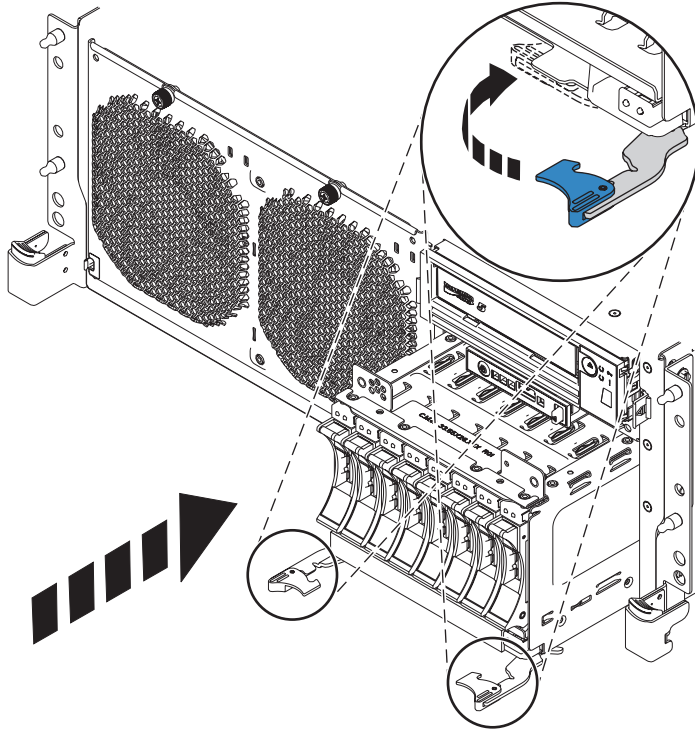

Figure 50. Replacing the disk drive cage
- a. With the disk drive latches extended, push the disk drive cage into the system. See Figure 50 on page 73.